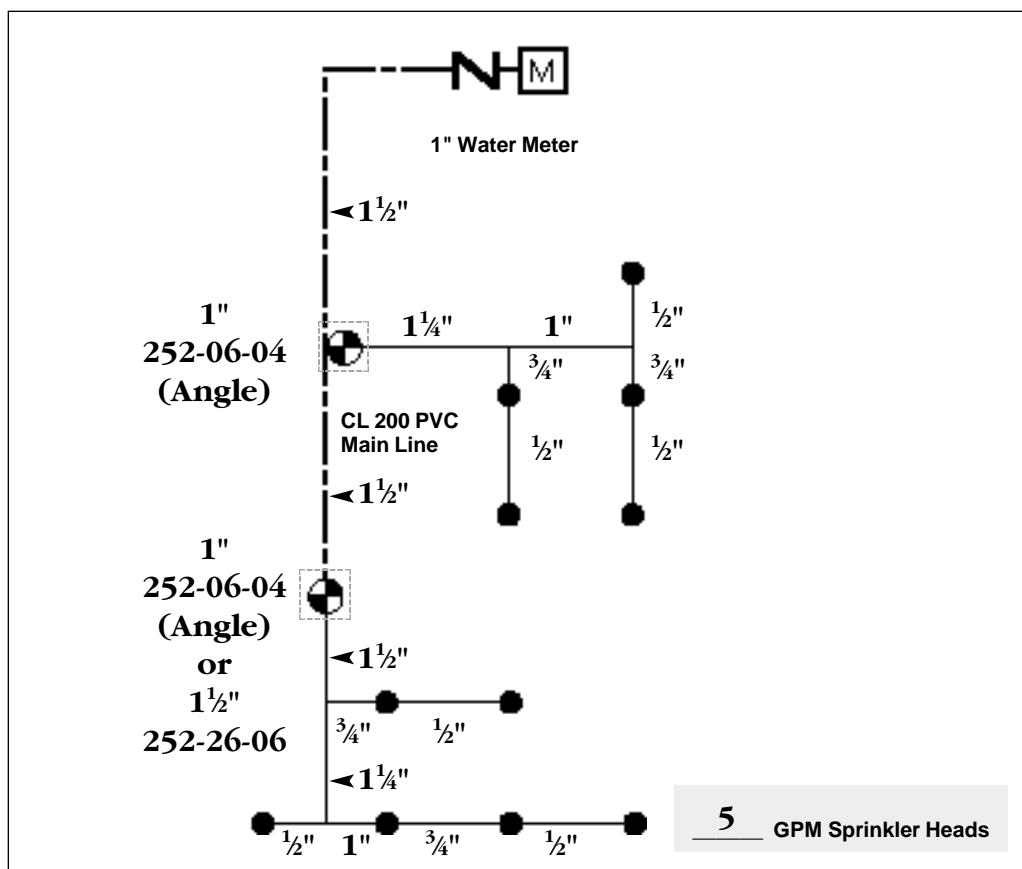

FIGURE 5.2
- Size the lateral line pipes, main line pipe and remote control valves in Figure 5.2 below.